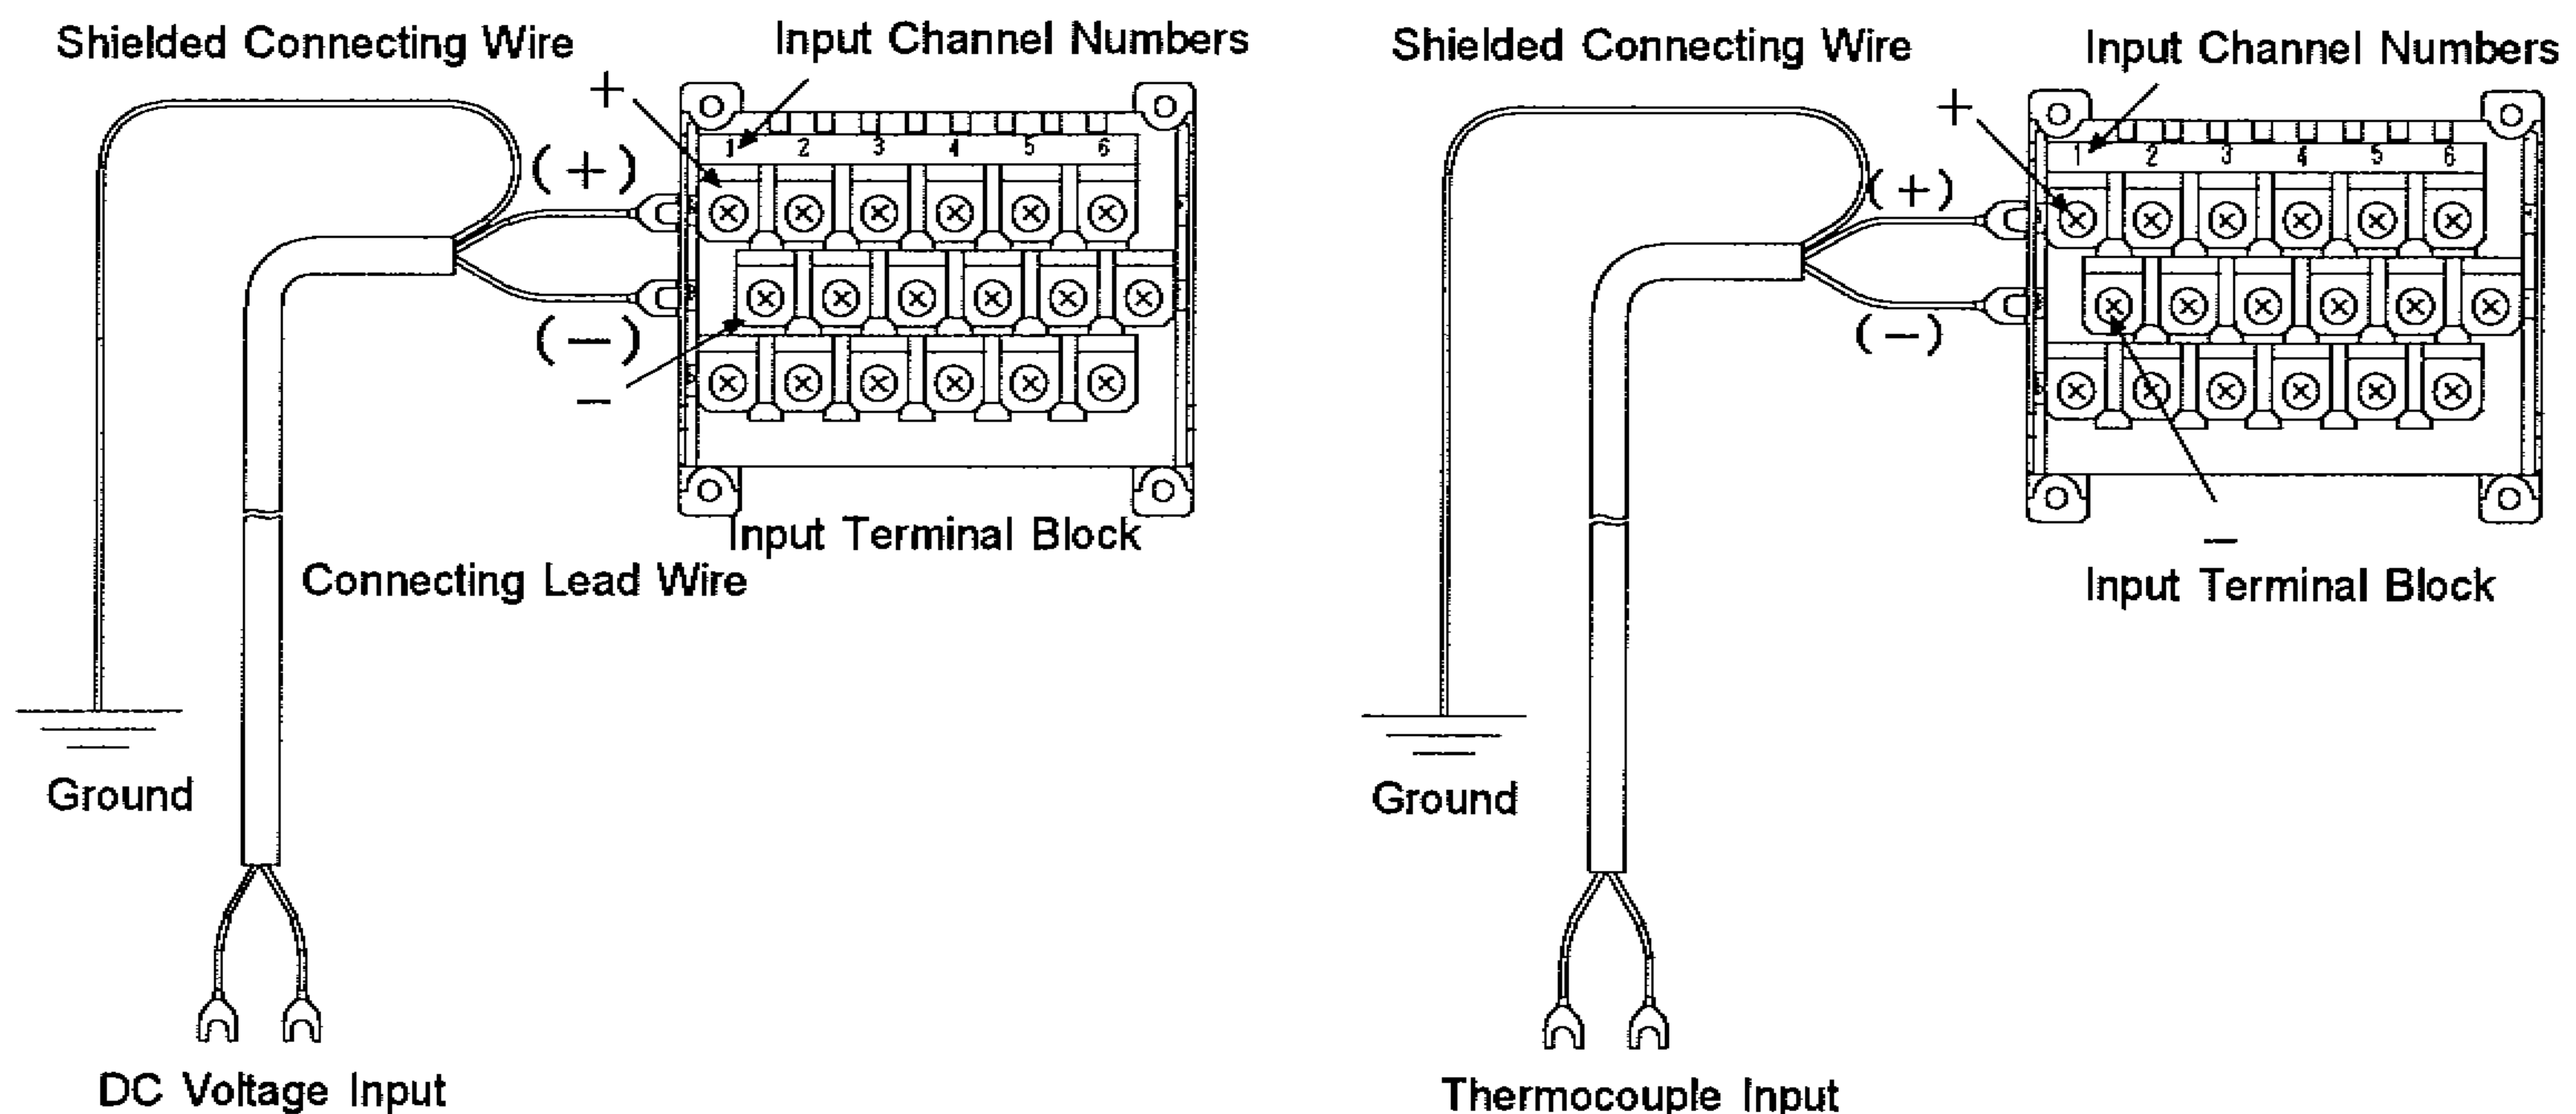
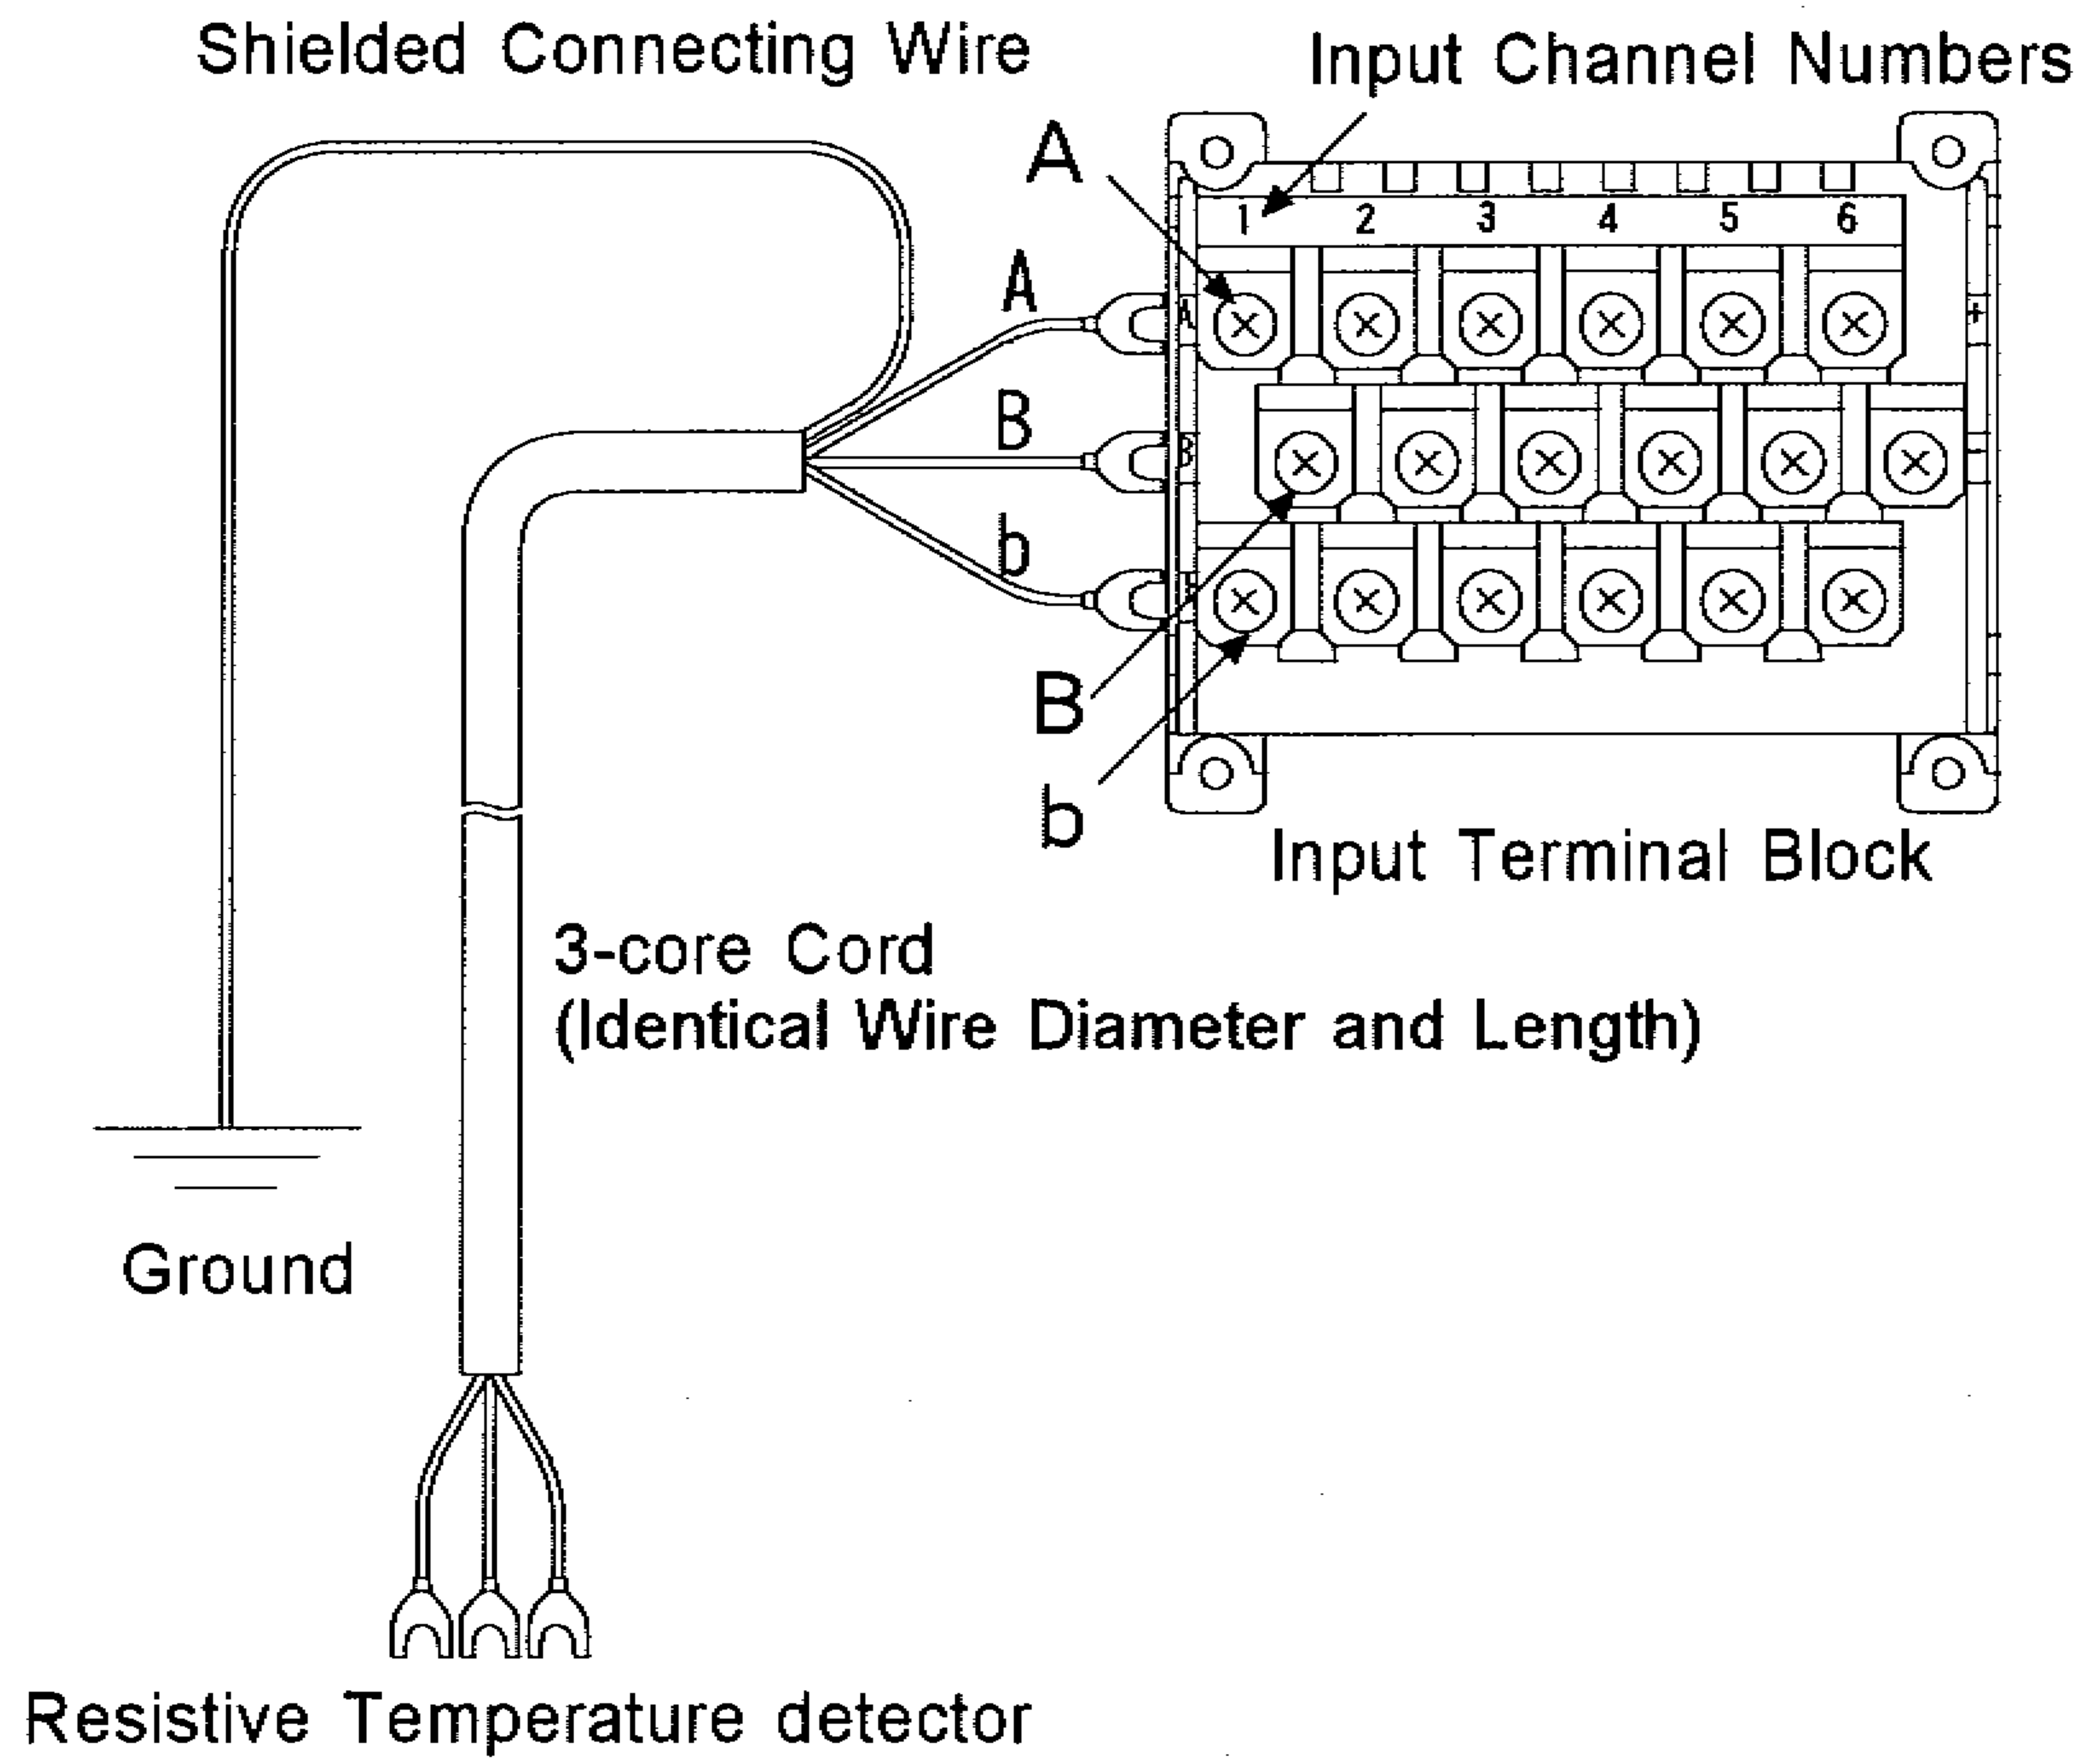
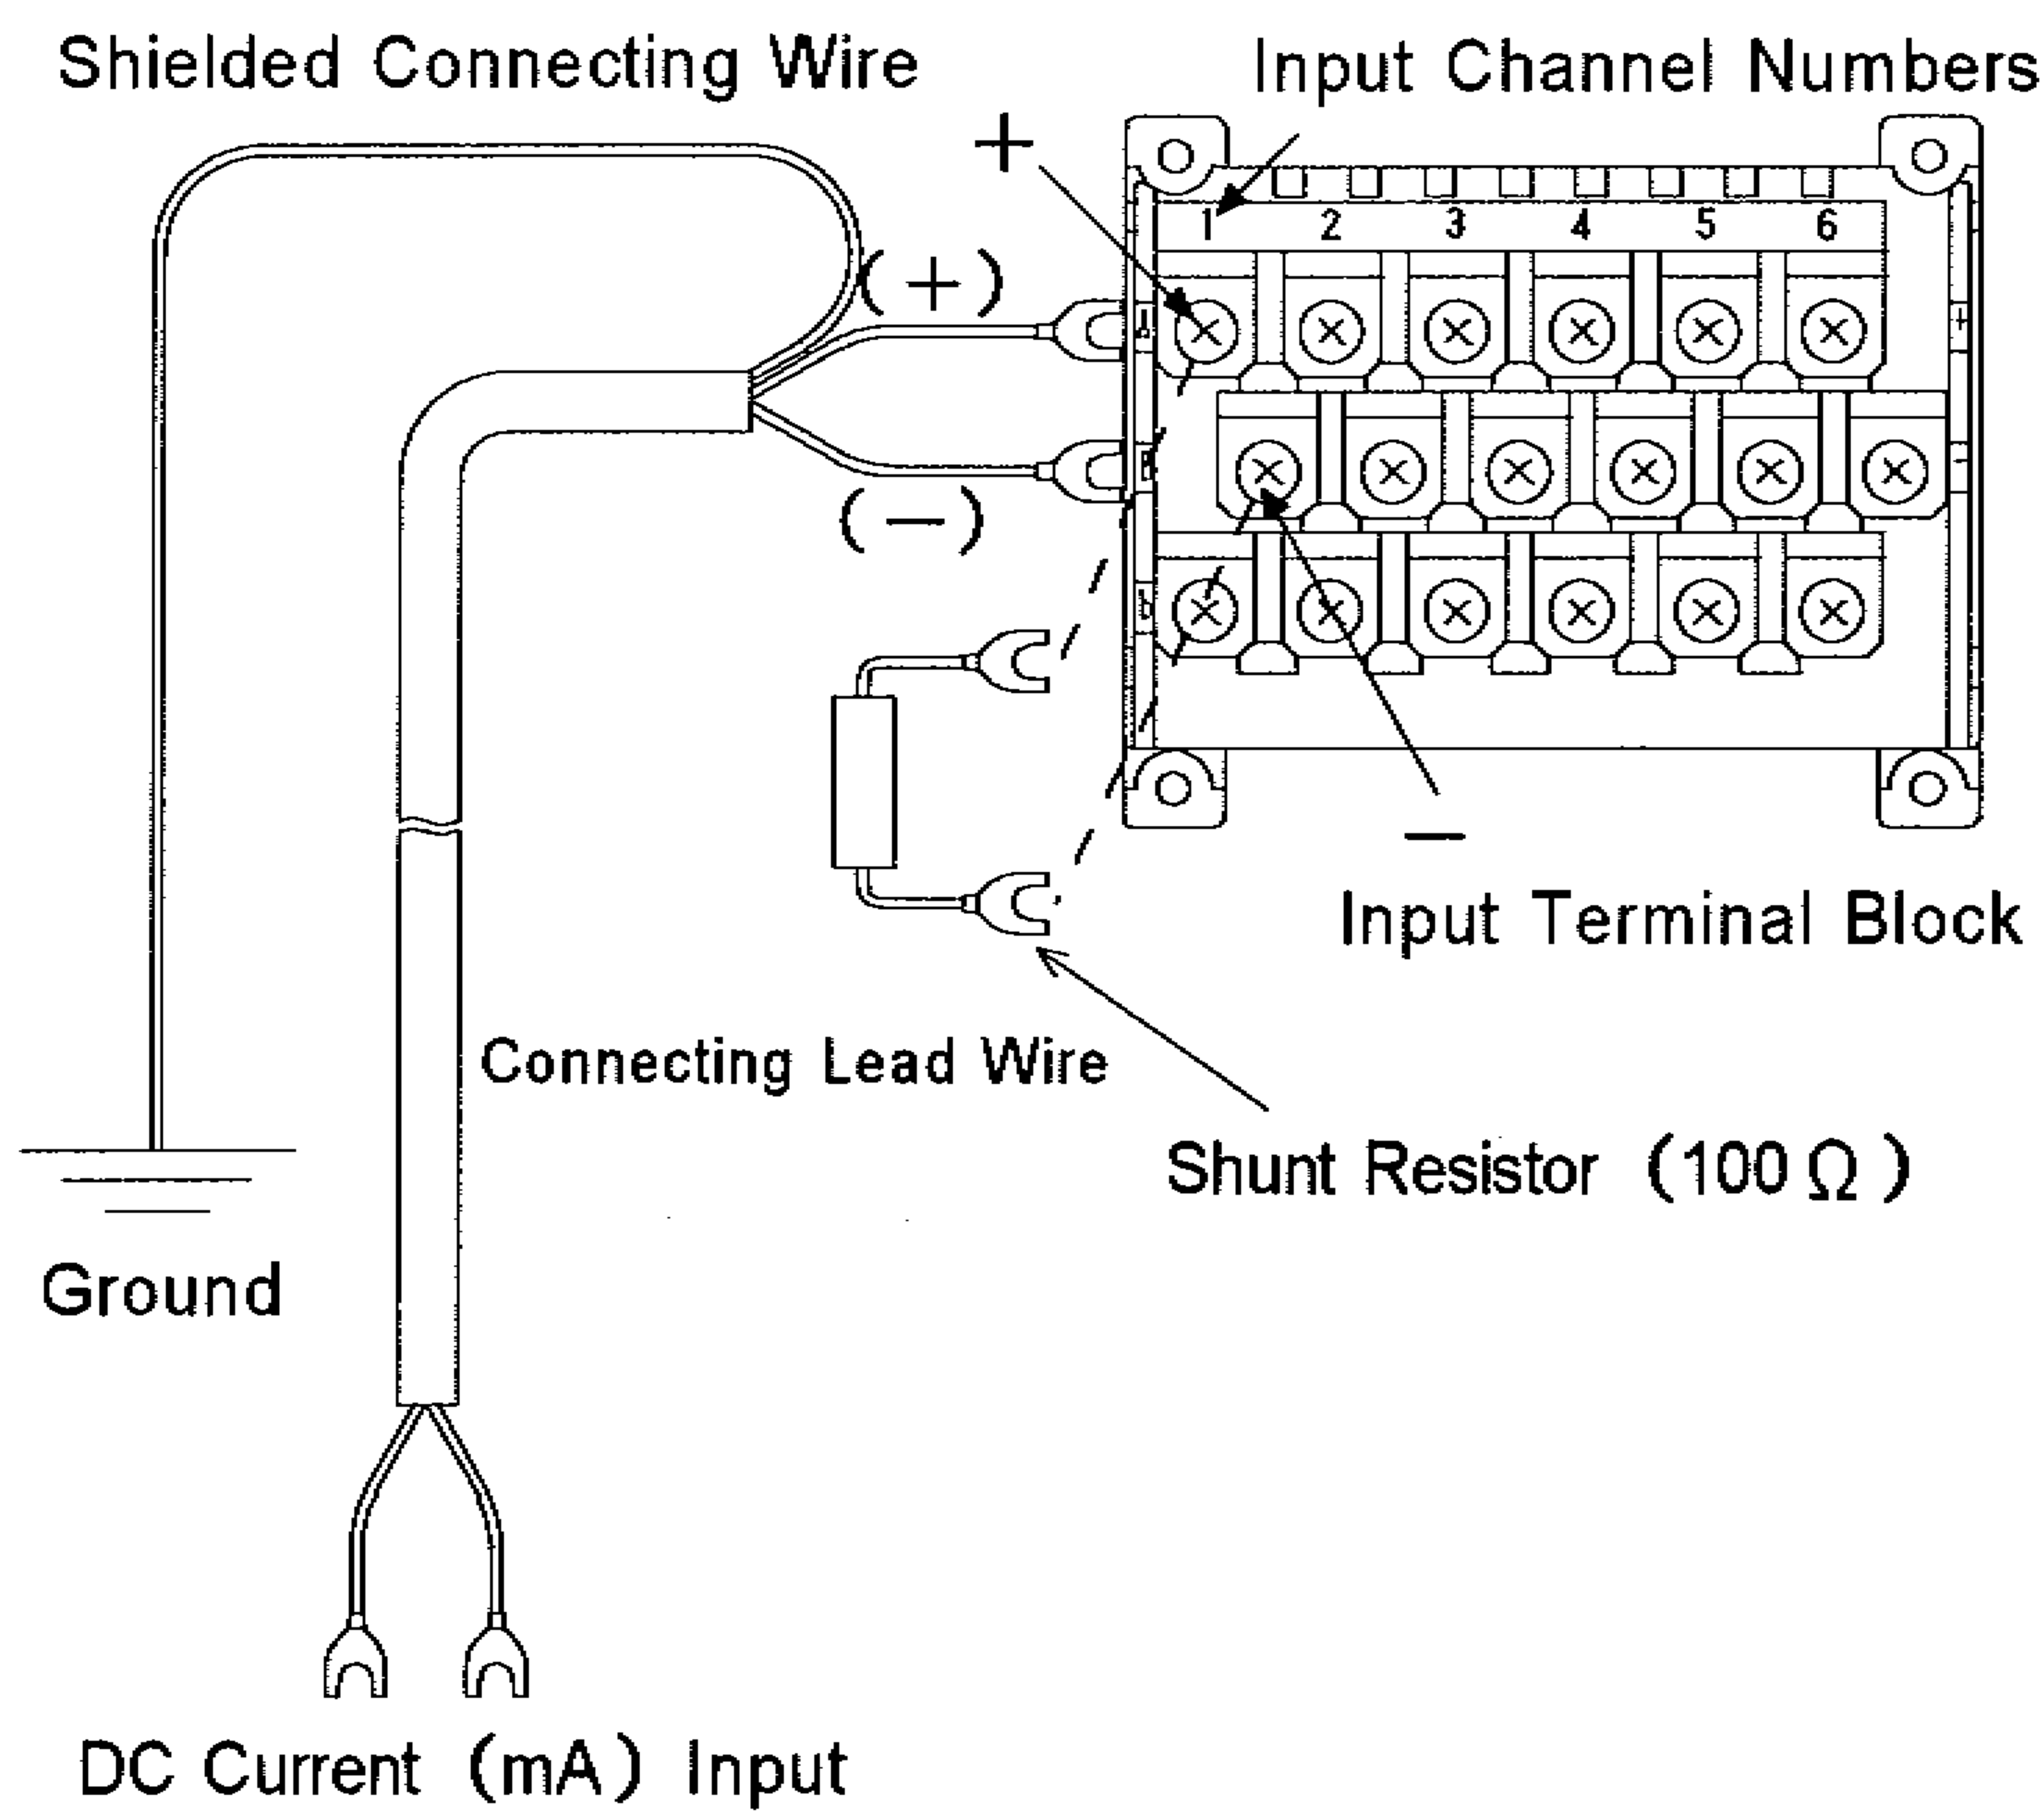

Fig. 4.3 Input Wiring (For mV, V, and Thermocouple Inputs)
Fig. 4.4 Input Wiring (For Resistive Temperature detector)
Fig. 4.5 Input Wiring (For mA Input)
- ① Turn off the power of the instrument.
- ② Remove the rear cover of the input terminal block.
- ③ Wire the input lines according to the wiring examples shown in Fig. 4.3, Fig. 4.4 (Page 14) , and Fig. 4.5 (Page 14) .
- ④ Put back the rear cover.